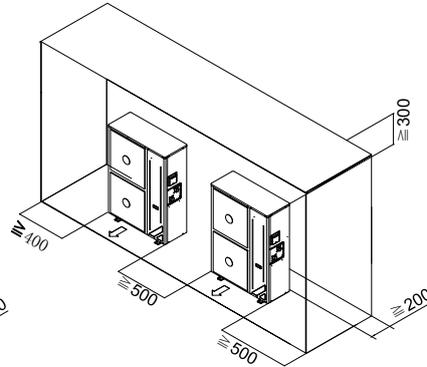

Figure 6
- Obstacles exist at both sides and the air inlet side (see Figure 6).